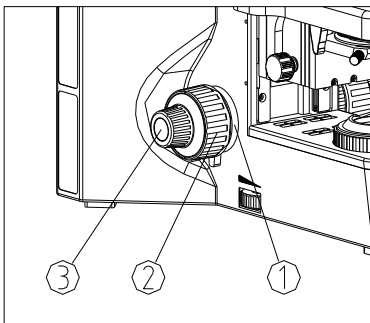

Fig. 13
- (1) Put the slice on the stage, and hold it down with the clip. Shift the 4X objective into the light path. (See Fig. 13)
- (2) Loosen the random upper limit knob ①, then observe the right eyepiece with the right eye. Rotate the coarse focusing knob ② until the image appears in the view field, then lock the random upper limit knob ①.